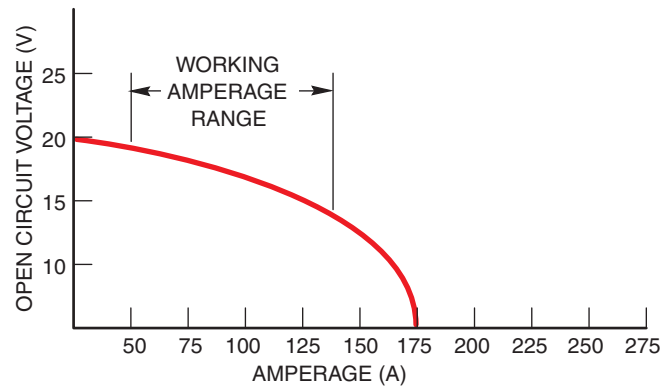

Figure 1.13 Constant potential welder slope
Although the GMA power source is said to have a constant voltage (CV) or constant potential (CP), it is not perfectly constant. The graph in Figure 1.13 shows that there is a slight decrease in voltage as the amperage increases within the working range. The rate of decrease is known as **slope**. It is expressed as the voltage decrease per 100-ampere increase—for example, 10 V/100 A. For short-circuiting welding, some welding power supplies are equipped to allow changes in the slope by steps or continuous adjustment.